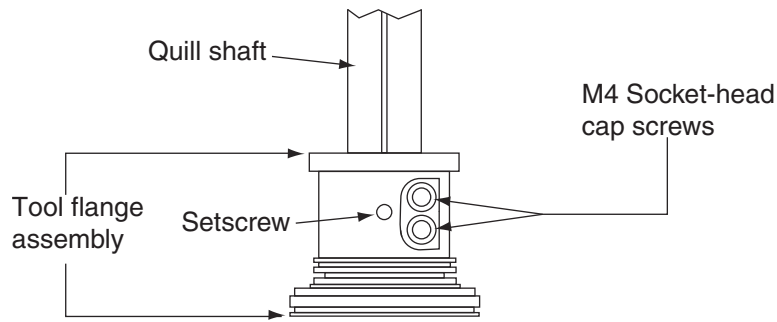

Figure 6-1. Tool Flange Removal Details
3. Use a 2.5 mm Allen driver to loosen the setscrew (see Figure 6-1 on page 72). Note the vertical-spline groove that is in line with the setscrew. You must reinstall the flange in the same position.